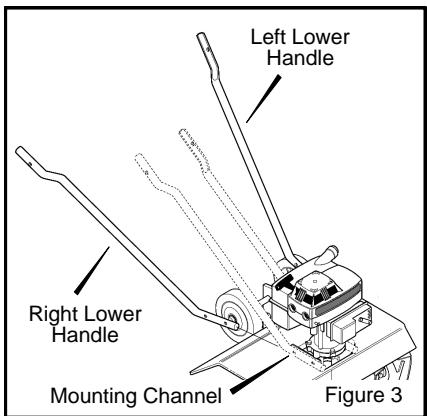

Figure 3
3. Insert the **right lower handle** into the **mounting channel** (see Figure 3). Make sure the flat end at the top of the handle is facing inward.
5. Insert the **left lower handle** into the **mounting channel** (see Figure 3). Make sure the flat end at the top of the handle is facing inward.